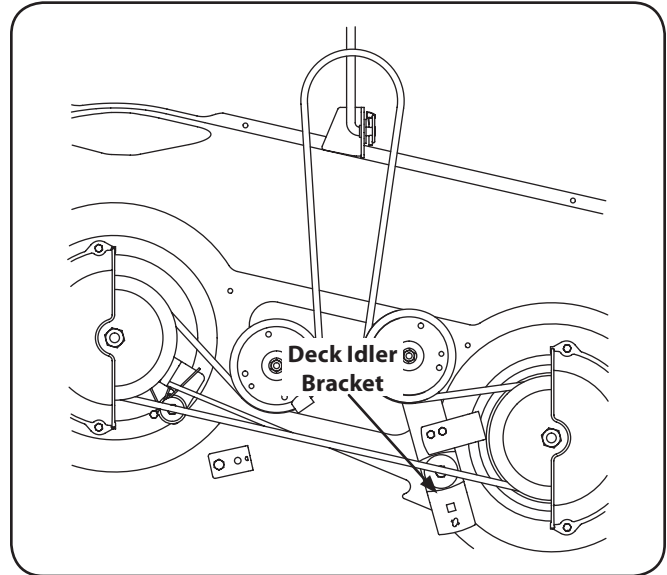

**Figure 7-2**
**NOTE:** If there is too much tension on the belt for it to be easily removed from the electric PTO clutch, carefully insert a  $\frac{3}{8}$ " drive ratchet wrench (set to *loosen*) into the square hole found in the deck idler bracket and pivot it toward the tractor's left side to relieve tension on the belt. See Fig. 7-2.